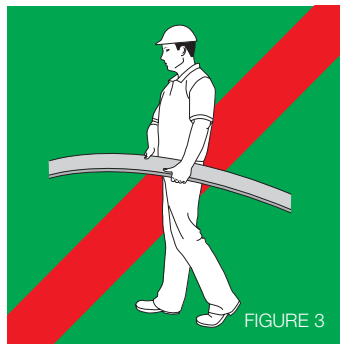

FIGURE 3
- Do not lift planked products flat and in the middle (figure 3)